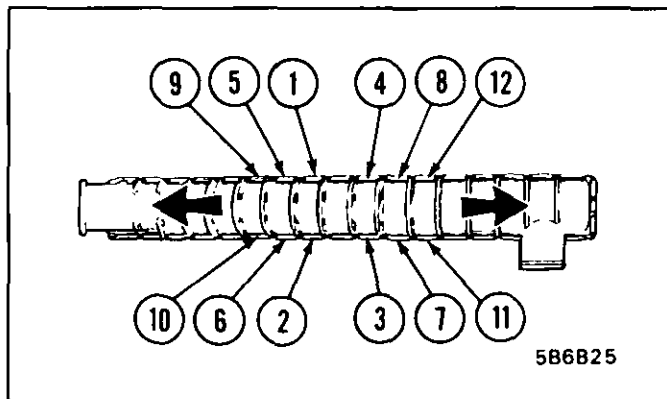

Fig. 37 Clinching Sequence
10. Clamp remaining clinch tabs around the header using the clinching tool or pliers (Fig. 37).